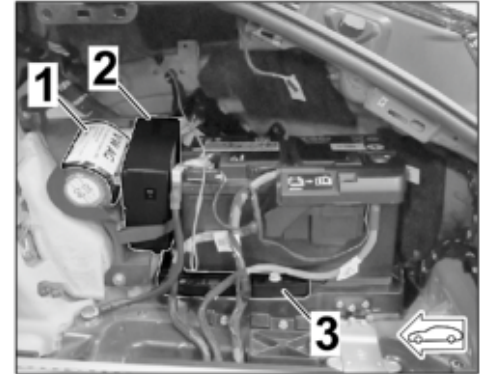

Figure 6 (Hybrid)
- 1.6.5 **ONLY** for vehicles with electric compressor (1G8): ⇒ *Figure 6 (Hybrid)*
- 1.6.6 Remove retaining bar for vehicle electrical system battery (⇒ *Figure 6 (Hybrid) -3-*) and unclip lines (positive and negative). ⇒ *Workshop Manual '270619 Removing and installing vehicle electrical system battery'*